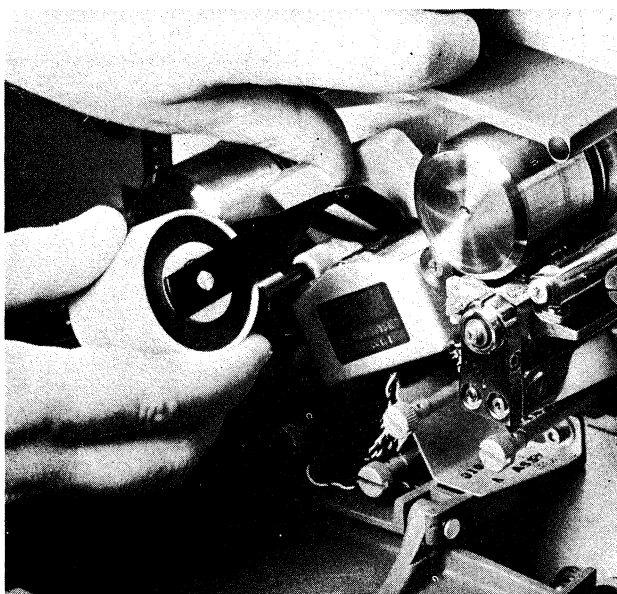

Figure 7-3.
Step 4: Bring the tips of the demagnetizer into close proximity to, but not in contact with, the head (Figure 7-3).